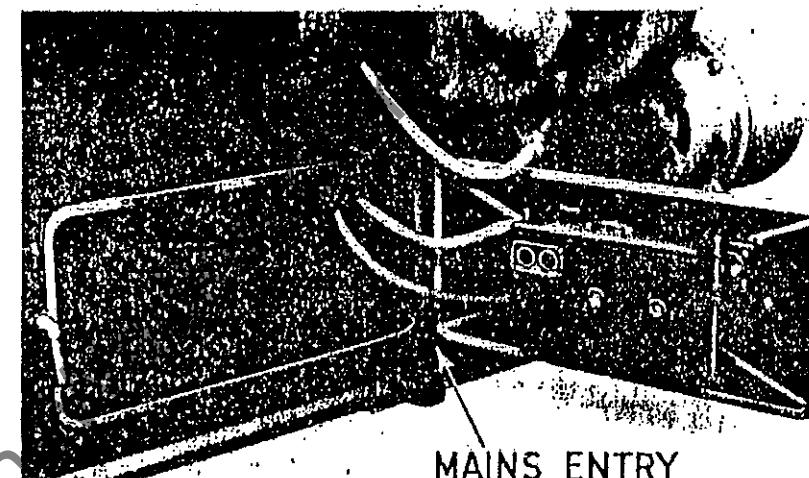

FIG. 18.
2. Connect the line leads to the appropriate terminals, see diagram D 221/ 3. The cable should be taken to the machine in steel conduit and secured by locknuts to the entrance shown in Fig. 18.
Note access to the control gear is obtained by the door, shown in Fig. 18.